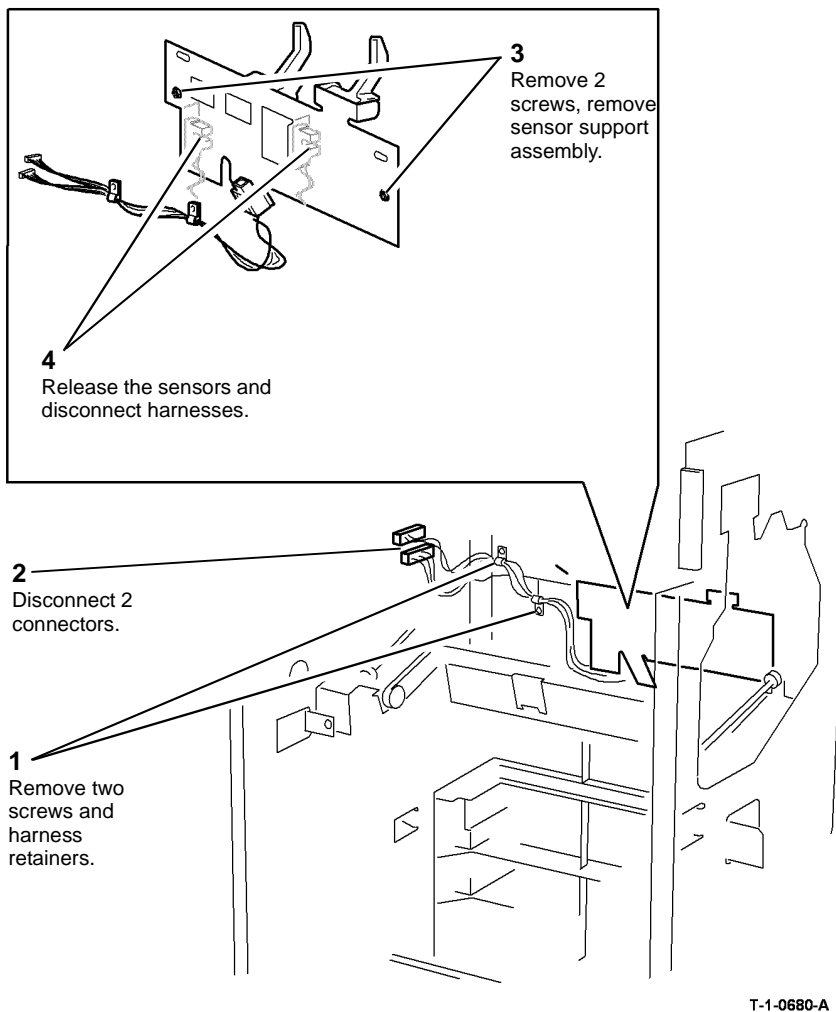

Figure 1 Removing the stacker level sensors
2. Remove the stacker level sensors Figure 1.